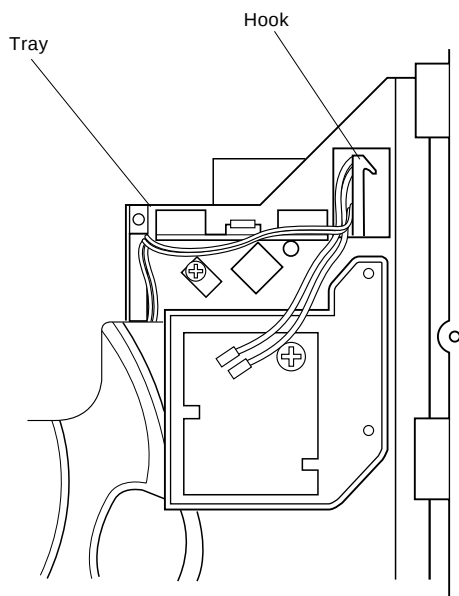

Fig. 11
- Unhook 1 Tray hook in Fig. 11 and pull out the Tray.